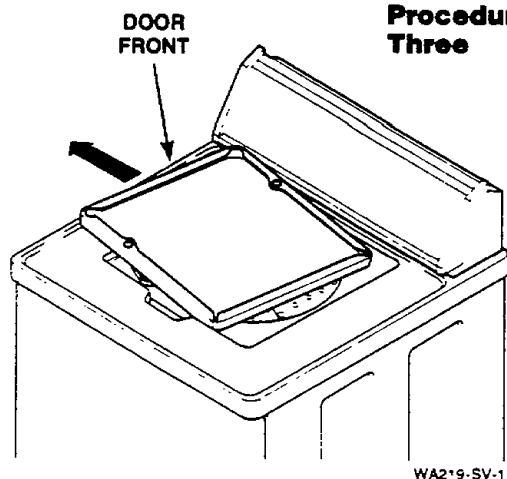

Figure 14
- With loading door raised to the vertical position, swing left side of door toward front of washer, *Figure 14*, procedure one.
- Rotate door so door is upside down, *Figure 14*, procedure two.
- Carefully remove loading door, right hinge and bushing from cabinet top, *Figure 14*, procedure three.